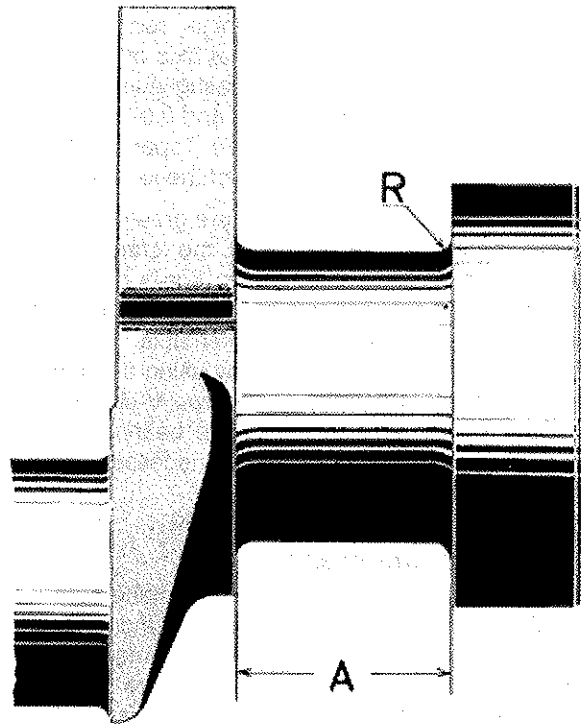

Fig. C6. Bearing journal
The fillets at the ends of the journals should have a radius of 2.0-2.5 mm (0.080-0.100") for all the journals, see Fig. C6. The width measurement (A) for the pilot bearing depends on the size of the journal and should be ground in order to obtain the correct measurement. See the "Specifications".